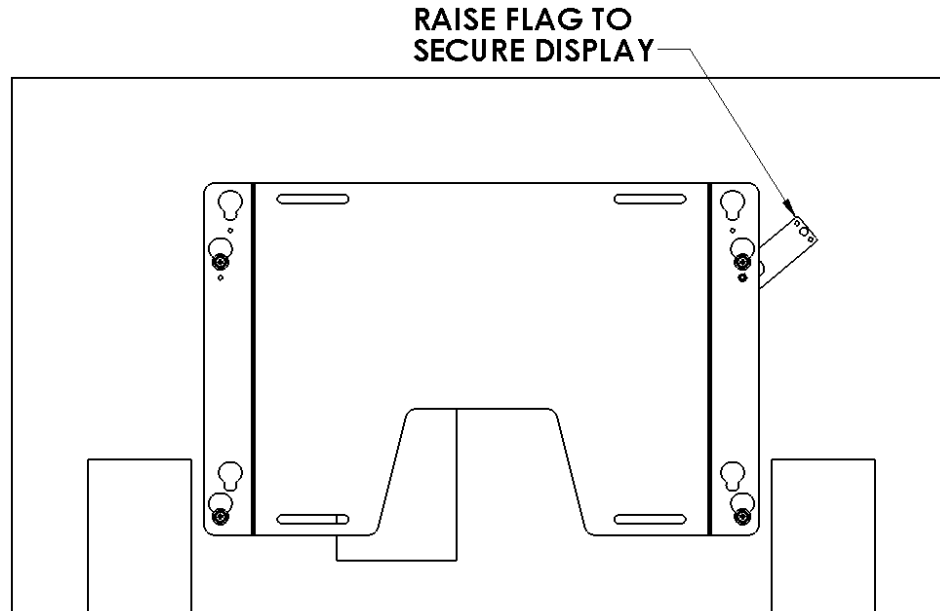

Figure 4
5. With the aid of another person, lift the display up to the mount, align the mounting buttons on the display with the teardrop slots in the mount, and set the display into place (see Figure 4).